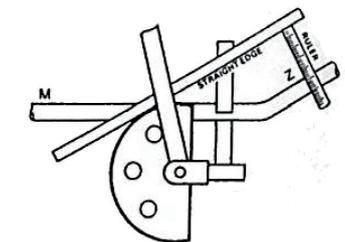

Figure 6
After making the first bend (usually to 45°). place the tube in the machine as shown in Figure 6, resting it against the stop E and bedding it into the groove of the former.
Suppose the offset required is to measure 100mm (Figure 6).
**Note: The set will increase as you push the tube to the right, and decrease as you push it to the left in figure 6. When you have obtained the correct measurement, bend in the usual manner until the tube M is parallel with Z.**